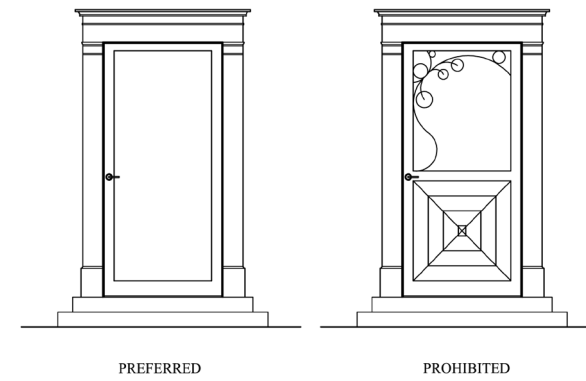

Figure 26
- » Storm doors and screen doors shall be full view, free of decorative trim, and match the color of the exterior trim of the house. See Figure 26.